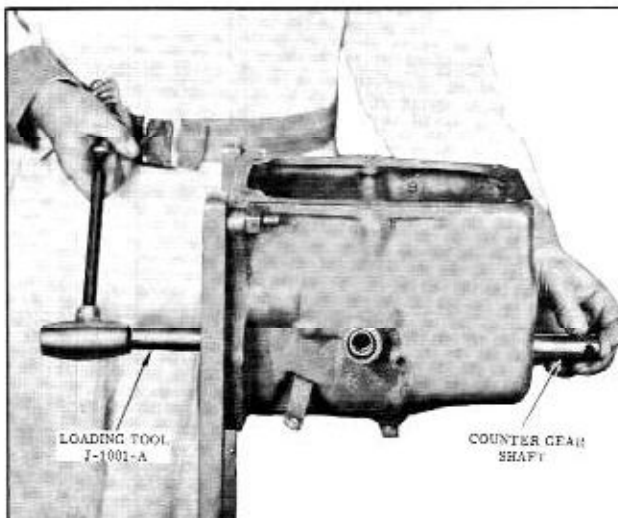

Fig. 11-17 Removing Counter Gear Shaft
21. Drive the counter gear shaft out through the rear end of the case using Bearing Loader Tool J-1001-A and a brass hammer. Make sure that the bearing loader tool follows the shaft closely so that the counter gear bearings and thrust washers will be held in place. (Fig. 11-17)